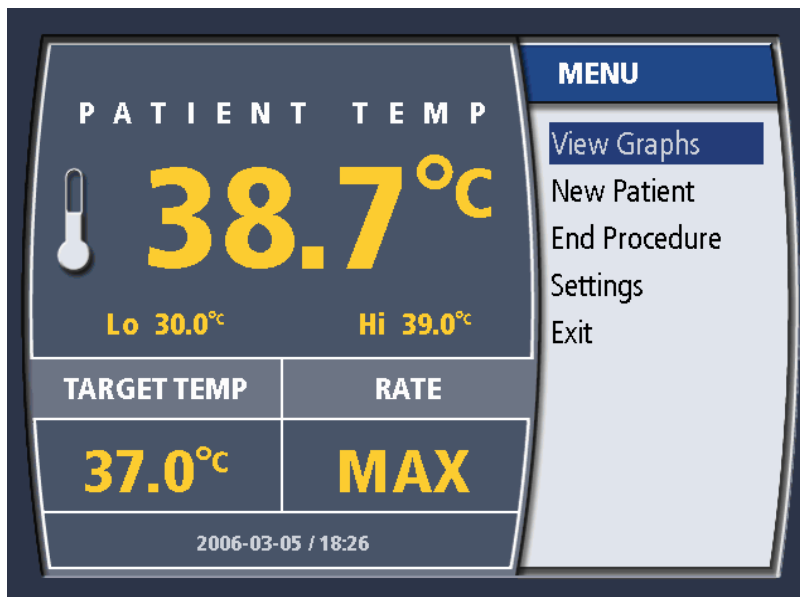

Figure 4.4. Main Menu
- To present menu selections. See Figure 4.4.
The main menu is displayed in Figure 4.4. To access the main menu, press the knob from the operating display. Some settings are accessible only in Standby mode.